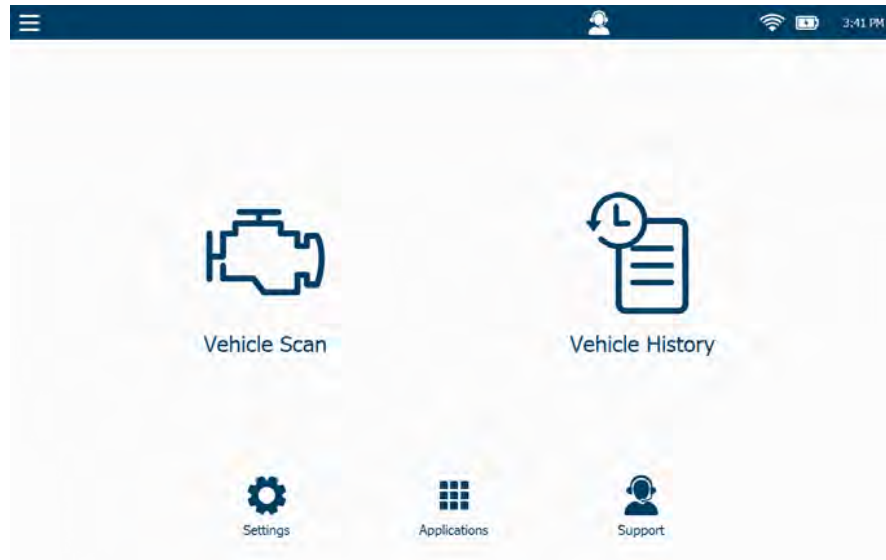

Figure 5.1 Main Menu
- 1 Select **Vehicle History** from the Main Menu (Figure 5.1).
- 4 Touch the **Back Arrow** again to return to the Main Menu (Figure 5.1).